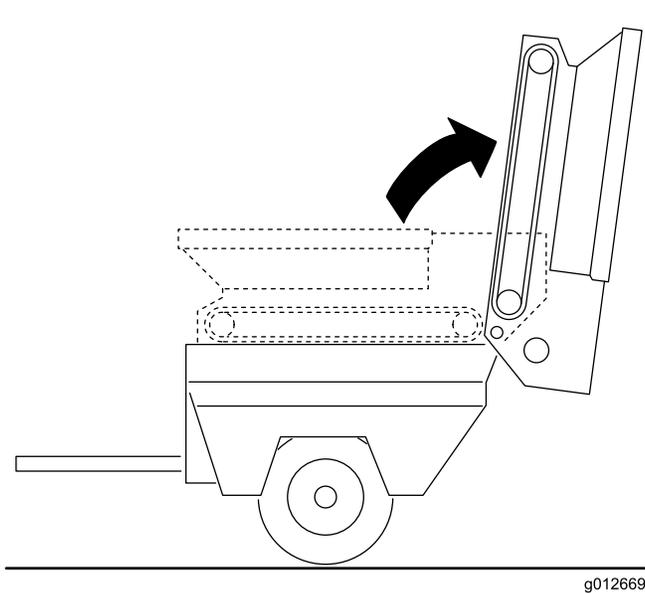

Figure 24
- Pivot hopper rearward and lean against wall, ladder, etc. Do not allow hopper to rest against rear of machine as damage may result to brush or hydraulic couplers (Figure 24)
Important: Make sure hopper is pivoted beyond center and/or secured to wall or post to prevent it from accidentally falling on work area (Figure 24).